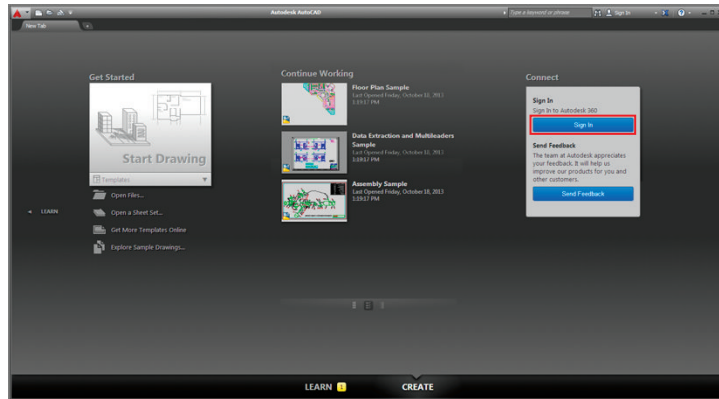

FIGURE 1.1 Clicking Sign In on the AutoCAD Dashboard
1. Click the Sign In button in the Connect section of the Dashboard (see Figure 1.1).